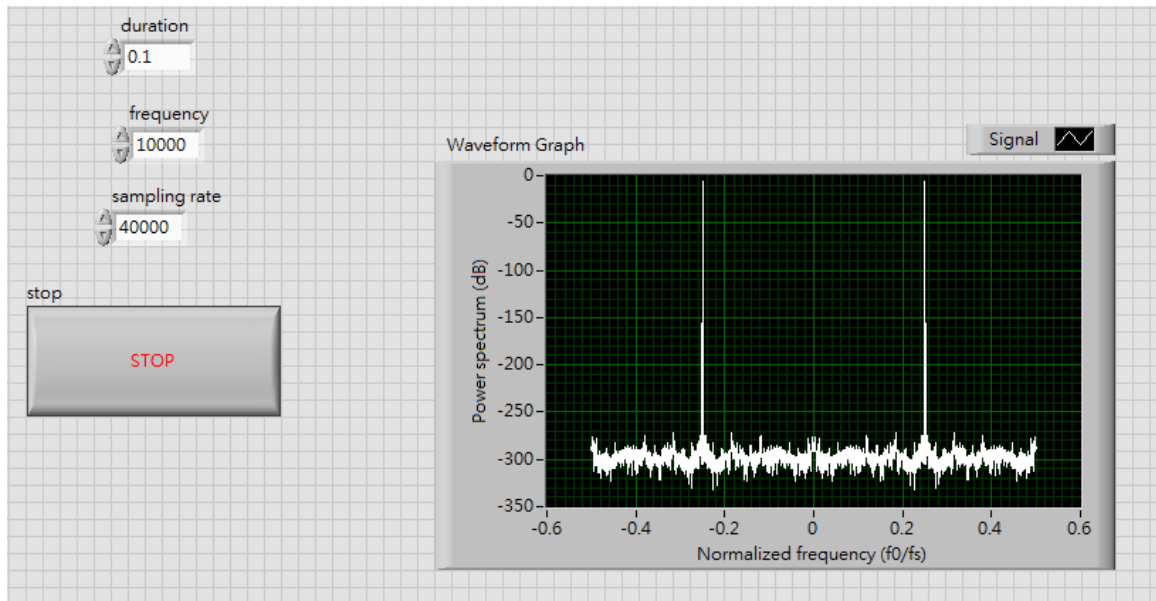

Figure 8: result of example 1
5. **Control panel:** After the block diagram part of this example is complete, we can now test our program in the control panel. Fig. 8 is a result with parameters: $f_0 = 10^4$, $f_s = 4 \times 10^4$, $T_d = 10^{-1}$.
Now, we briefly explain the design of this example. First, in system configuration part, we use system parameter and pulse shaping generator to create coefficients and symbol map that will be used for Waveform generator/converter loops. Second, the message source loops are created. In this case, we use texts as source. After converting texts to bytes arrays, we use queues to pass bytes stream to packet formatter. The operation of packet formatter is the same as in previous section. Thirdly, bit-stream of packets are passed to waveform generator to form waveform. Note that this is a simulation example. So a simulation channel `Add AWGN noise.vi` is placed here to include the effect of channel noise. The rest of the signal flow is reverse to how waveforms are generated. Fig 8. is a result from the simulator.